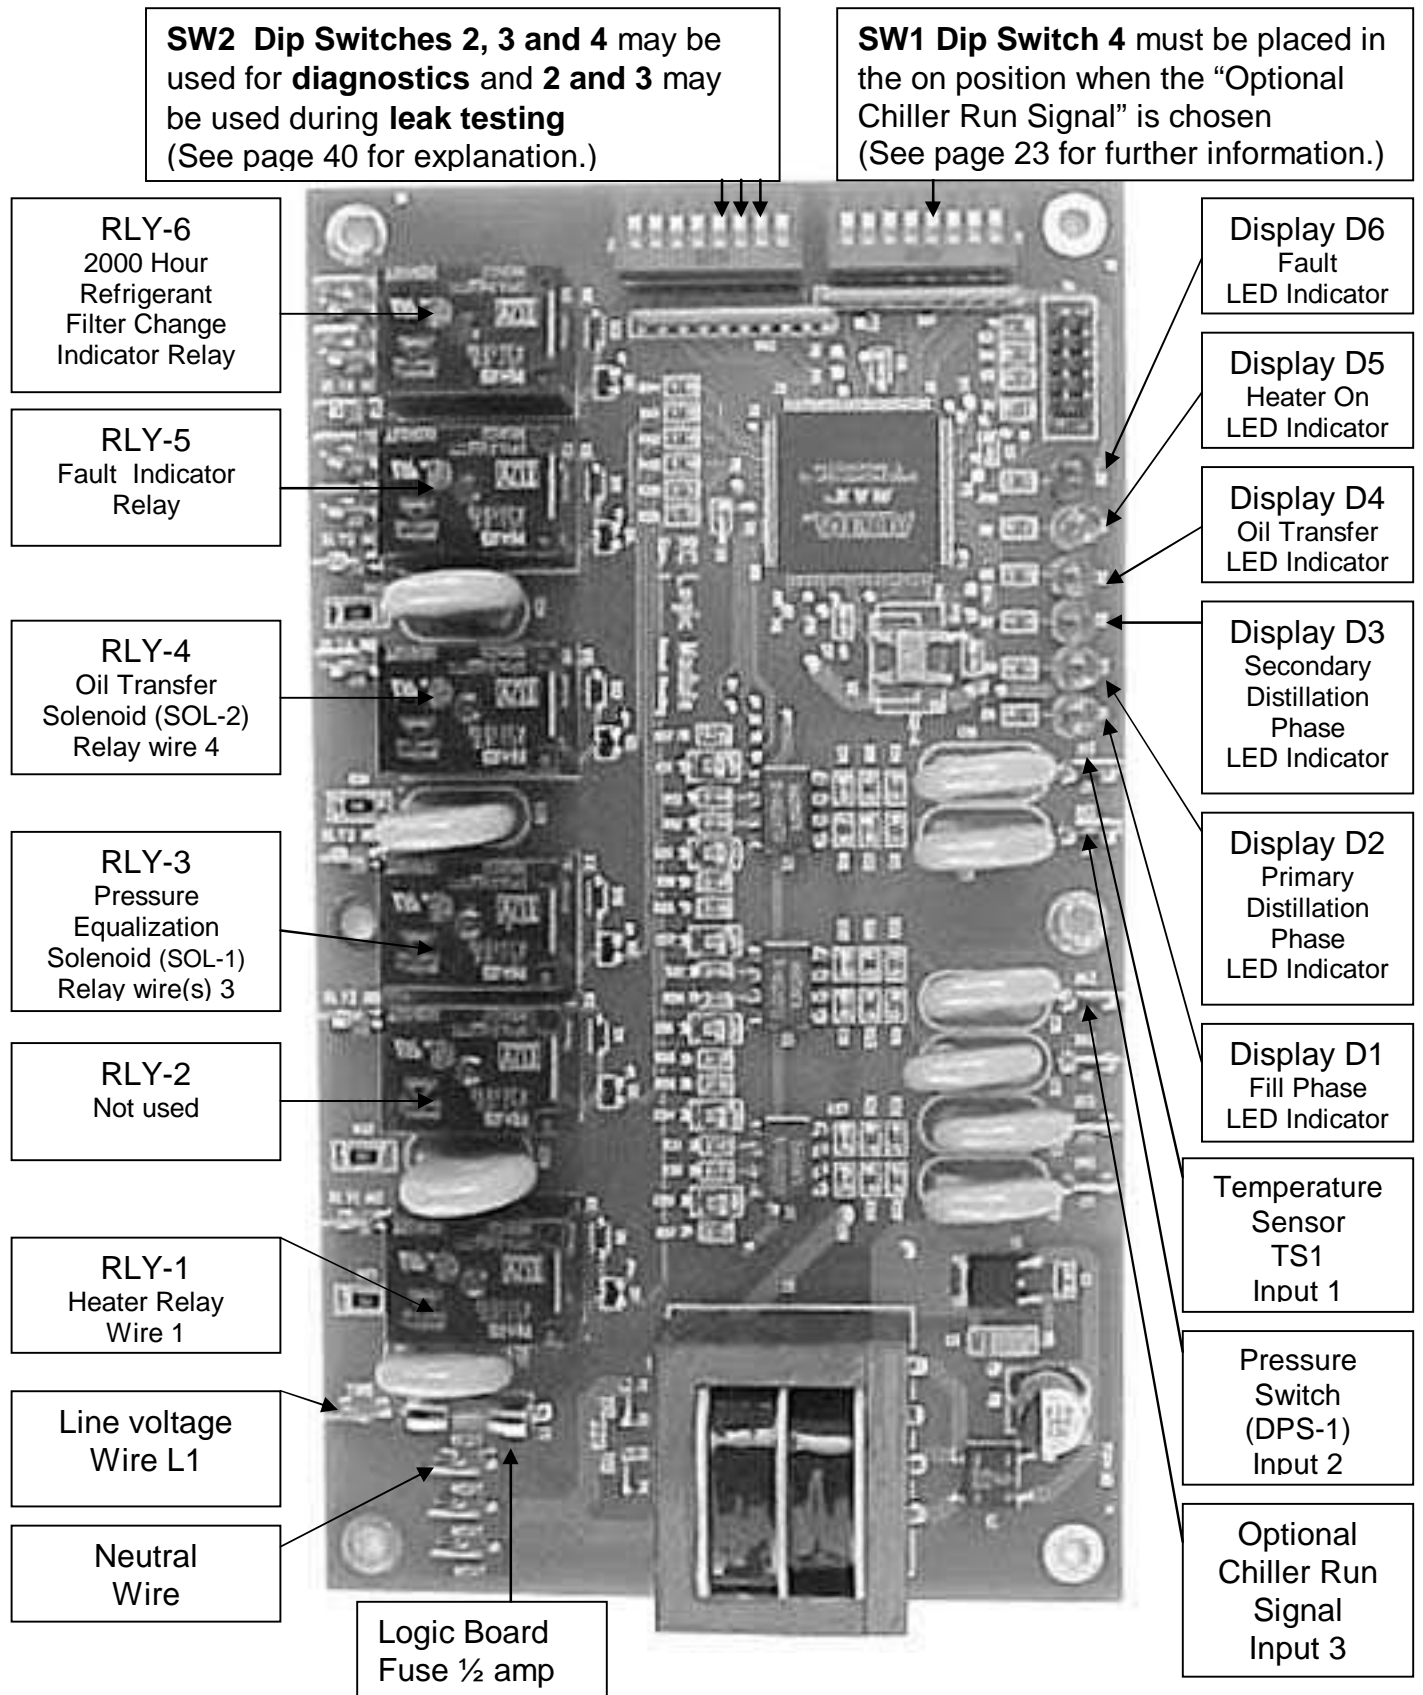

Figure 7. – Solid State Logic Circuit Board
10. The **Green LED** indicator **D1** (see Figure 7, page 33) should now be **blinking**, indicating the purger is in Fill Phase 1 and the Distillation Tank is being filled by gravity with refrigerant / oil mixture from the Chiller.
(See Figure 6, page 31, Figure 7, page 33 and Figure 8, pages 34 and 35.)
(See Fig. 7, Page 33 for further information.)
Dip Switch (SW1) & (SW2) During normal operation All Dip Switches on the OAM Purger MUST be in the off position. During diagnostics and leak testing procedures certain Dip Switches on Switch SW2 are placed in the on position. If the “Chiller Run Signal Option” is utilized, Dip Switch 4 on Switch SW1 will be in the on position. (See Fig. 7, page 33.)
(See Figure 7, on page 33)
Dip Switch (SW1) & (SW2) During normal operation All Dip Switches on the OAM Purger MUST be in the off position. During diagnostics and leak testing procedures certain Dip Switches on Switch SW2 are placed in the on position. If the “Chiller Run Signal Option” is utilized Dip Switch 4 on Switch SW1 will be in the on position. (See Fig. 7, page 33.)
5. Remove cover from Electrical Panel, on **Switch SW2** flip **Dip Switches 3 and 4** to the **ON** position. (***This procedure allows the Oil Return Solenoid Valve and Distillation Heater ONLY to energize when power is re-applied.***) (See Figure 7, on page 33 for location of SW2).
6. Connect low side manifold gauge to the schrader access fitting at top of Distillation Tank. Add approximately one (1) pound of refrigerant (***same refrigerant as in chiller***) to Distillation Tank.
WARNING: Be sure DIP Switches 2, 3 and 4 on Switch SW2 are returned to the **OFF** position when finished. If any of these DIP Switches are left in the ON position, the OAM Purger will not function. (See Fig. 7, page 33 for location of Switch SW2.)
WARNING: Be sure DIP Switches 2 and 3 on SW2 are returned to the **OFF** position when finished. If either of these DIP Switches are left in the ON position, the OAM Purger will not function. (See Fig. 7, page 33 for location of Switch SW2.)